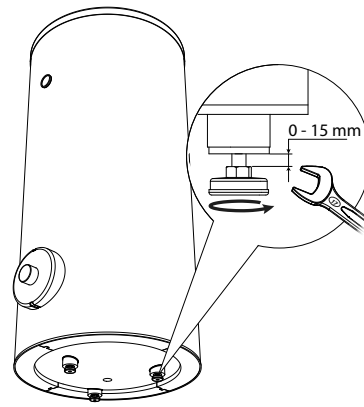

Fig. 10 Levelling the unit.
In order to minimize the flow of water from the safety valve associated with the thermal expansion of the liquid, it is advisable to install a suitable expansion vessel at the cold water connection (see Fig. 10 item 9.)